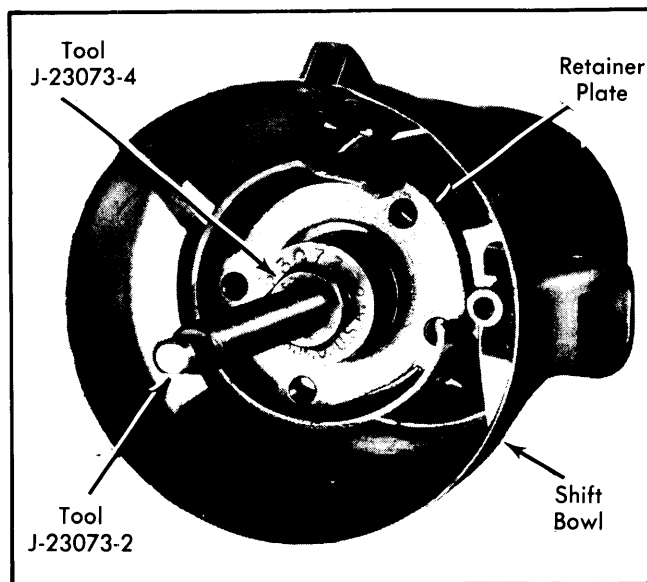

Fig. 13 Positioning Shift Tube Installer Tools
2) Install shift tube through lower end of column. Make sure tube spline is aligned with shift bowl keyway. Place shift tube installer tools (J-23073-2 and J-23073-4) in shift tube. Make sure spring loaded lower foot of tool is engaged with shift tube inner shoulder and tool guide is seated in shift tube. See Fig. 13.